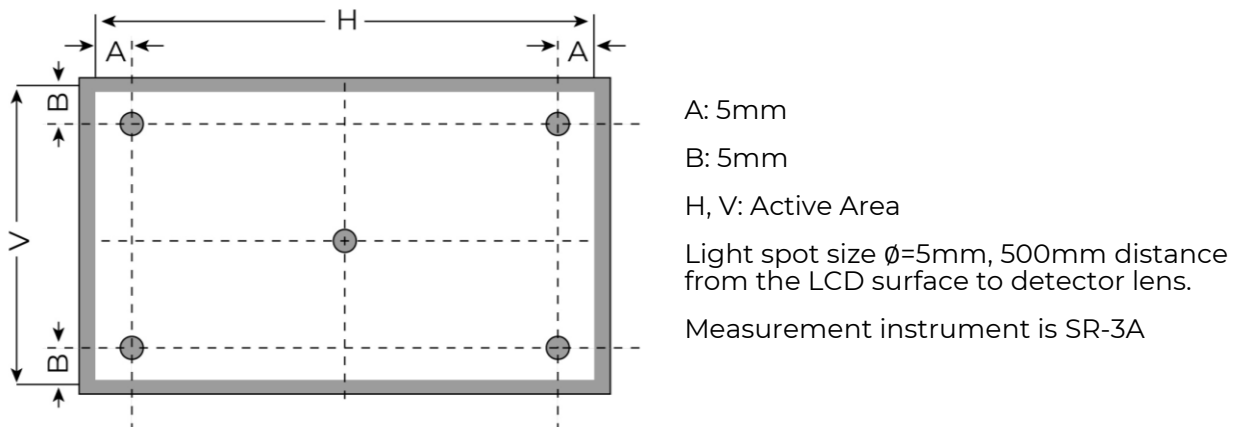

Figure 3. Measuring method for Contrast ratio, surface luminance, Luminance uniformity, CIE (x, y) chromaticity
Note 1. Contrast Ratio (CR) is defined mathematically as below, for more information see Figure 3.
Note 2. Surface luminance is the LCD surface from the surface with all pixels displaying white at 100% backlight. For more information see Figure 3.
Note 3. The uniformity in surface luminance δ WHITE is determined by measuring luminance at each test position 1 through 5, and then dividing the minimum luminance of 5 points luminance by maximum luminance of 5 points luminance. For more information see Figure 3.